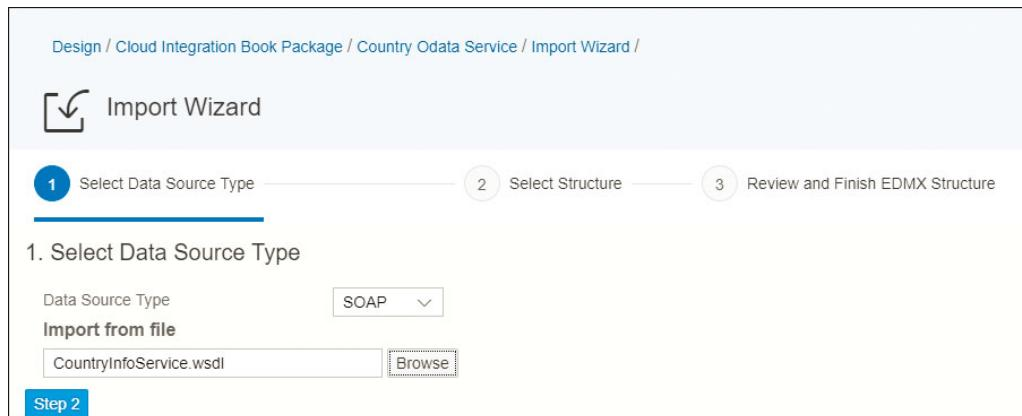

Figure 4.100 Importing a WSDL Data Source
2. Select **SOAP** from the **Data Source Type** dropdown, and click on the **Browse** button to select the WSDL file that you downloaded in Section 4.5.1 (Figure 4.100).